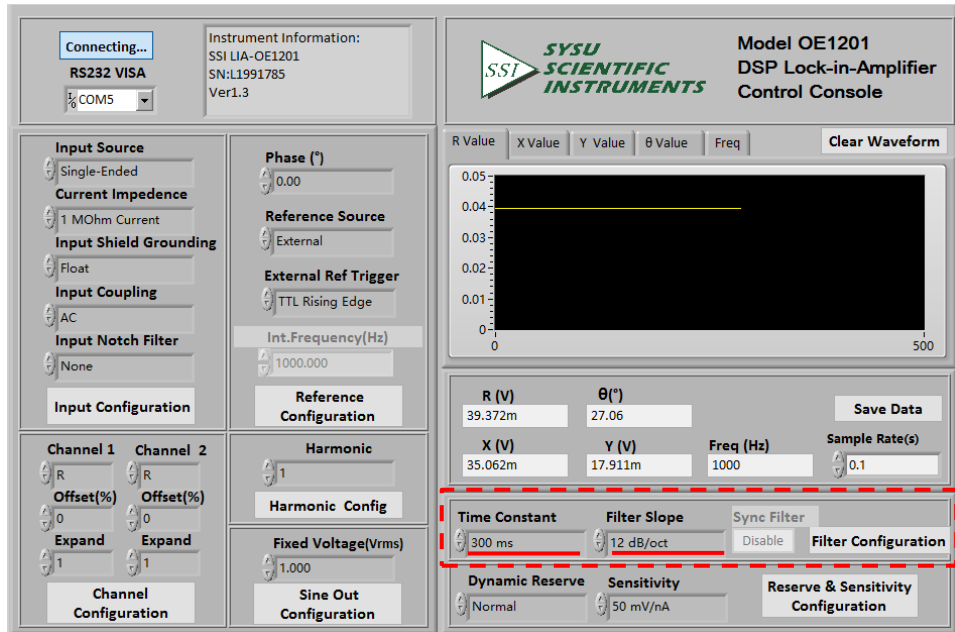

Fig.50 Filter Configuration
3) Choose these two options in “Filter Configuration”, including “Time Constant” and “Filter Slope” with other options in default, as is shown in Fig.50. At last, click the button